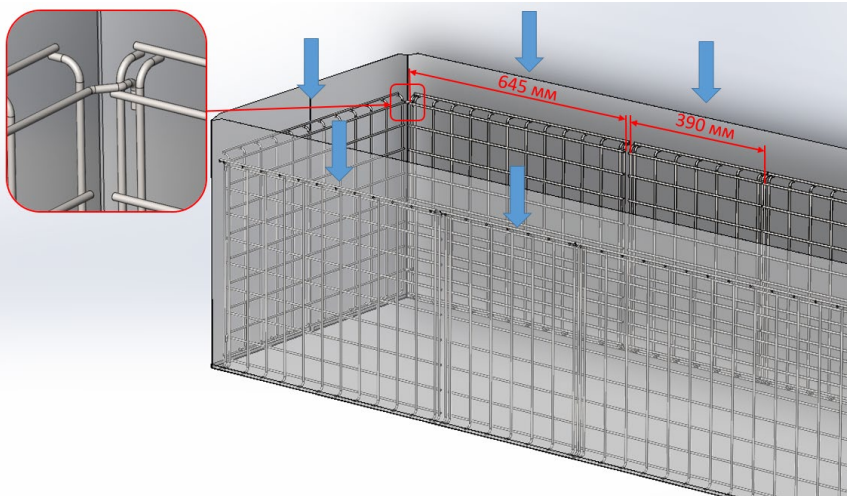

Fig. 4.1.2. Fastening of longitudinal and end gratings.
2. Two longitudinal gratings and end gratings are installed on the left wall of the internal space, they are attached to the longitudinal one (see Fig. 4.1.2)